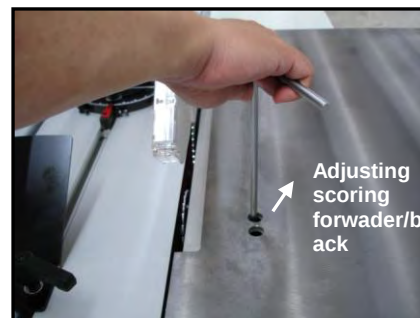

Fig. 36-1
2. Use T tool to adjust scoring blade (Fig. 36-1/-2)